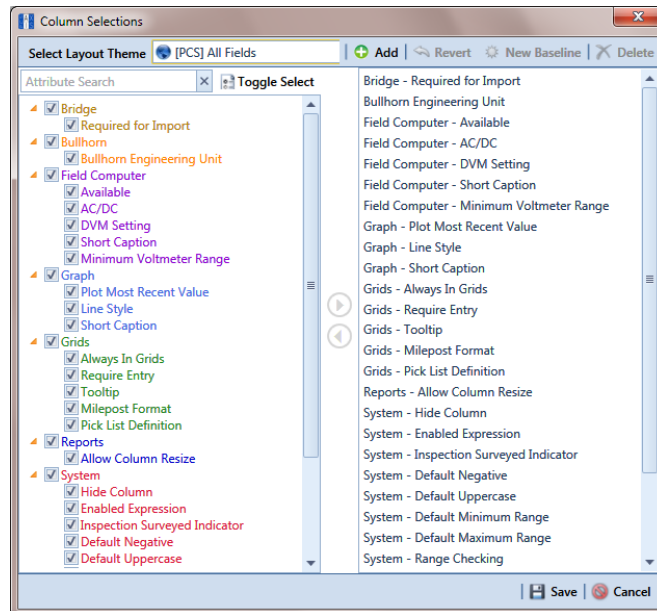

Figure 3-24. Column Selections
- 2 Click  **Customize** to open the *Column Selections* dialog box (Figure 3-24).
- 4 To remove one or more fields in the layout theme, complete one of the following steps (Figure 3-24, page 65):